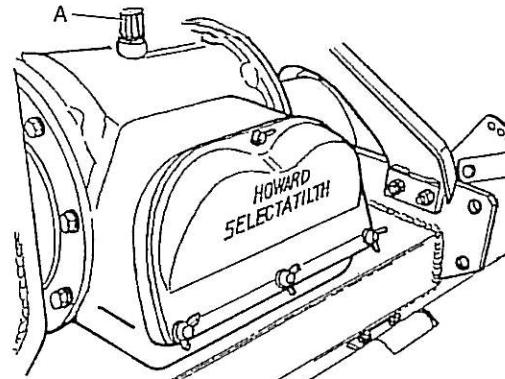

Fig. 5
2. The gearcases filled to the level plugs (fig. 5 C) - (7 l).